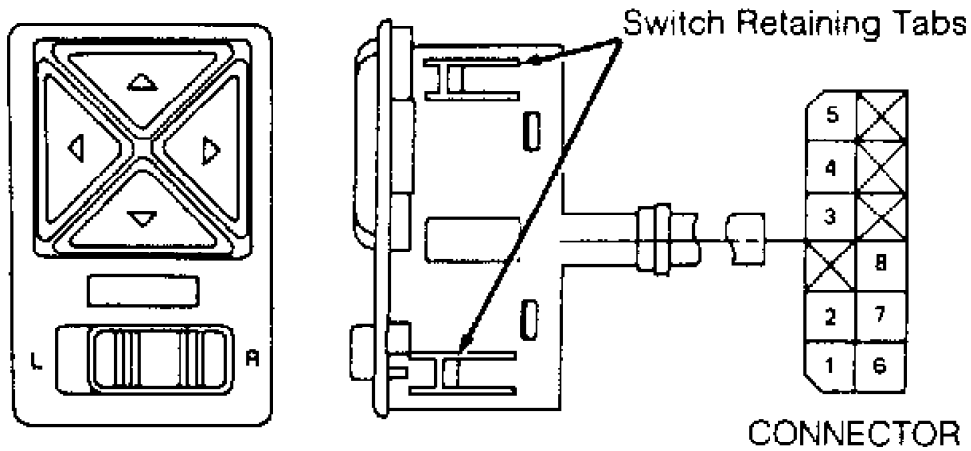

Fig. 2: Identifying Mirror Switch Connector Terminals (XT & XT6)
1) Remove mirror switch from instrument panel. Unplug switch harness connector. Press desired position button on switch, while checking switch connector terminal continuity. See POWER MIRROR SWITCH CONTINUITY TEST table. See Fig. 2.